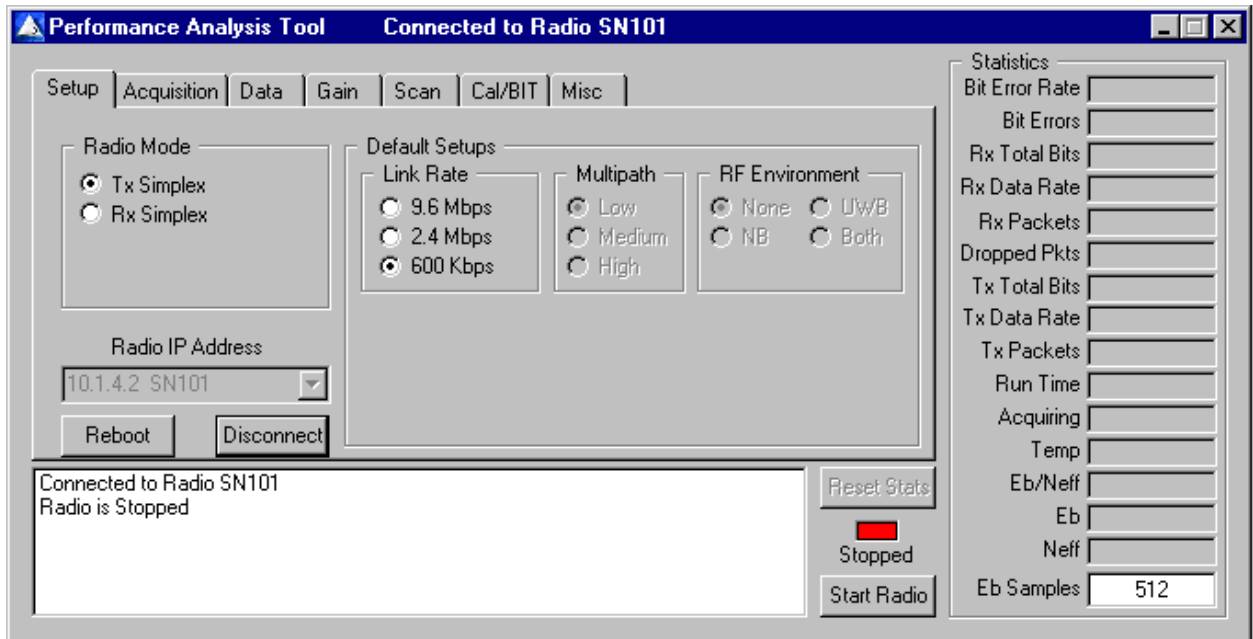

Fig. 11: Performance Analysis Tool (PAT) connected to the radio in the default 'stopped' state
3. Click the **Connect** button. The status window should return with the message "Connected to Radio (*radioserialnumber*)" and will indicate the current operating state of the radio. The default operating state of the radio after power-on will indicate "stopped" (Fig. 11).